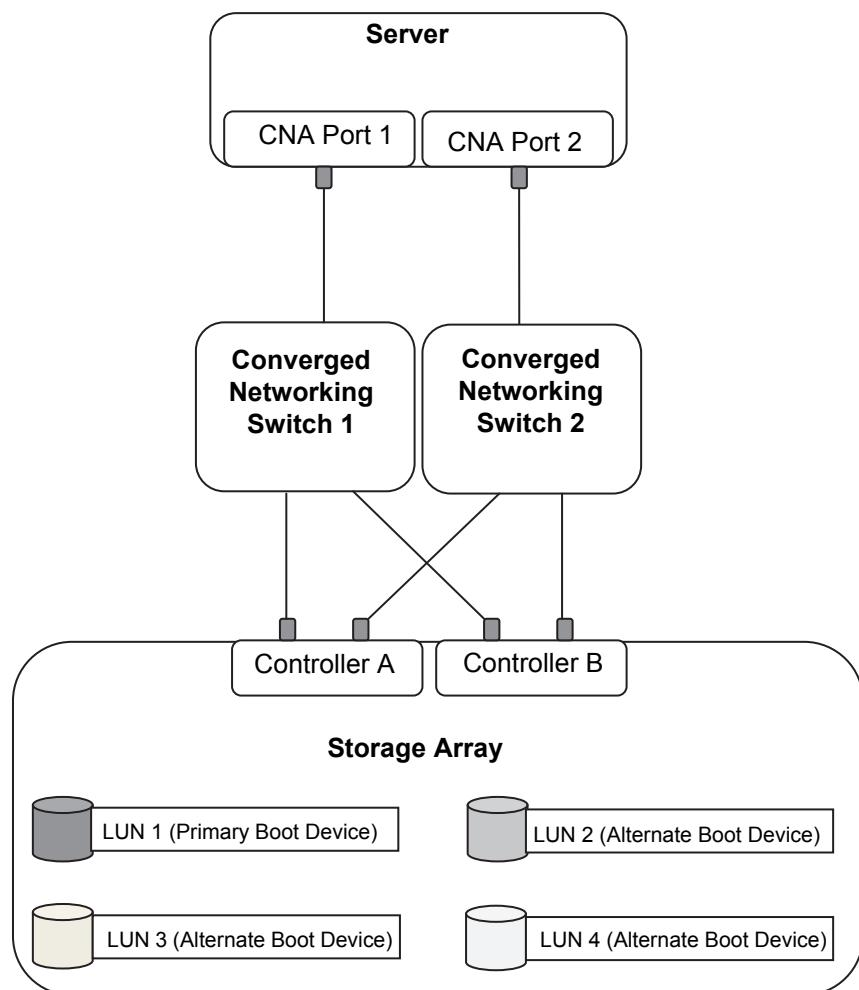

Figure 7-7. Multipath Topology
Multipath topology provides fault tolerance through redundant SAN components: two adapter ports, two converged networking switches, and access to the boot LUNs through two independent storage array controllers. Figure 7-7 shows the SAN components and their connections. The server has access to the primary and alternate boot LUNs through two independent paths. A single point of failure is unlikely with this configuration. You can enhance this configuration further by adding more adapter ports that connect to the converged networking switches. This added level of redundancy protects against adapter board failures.
- a. Connect the second adapter port, as shown in Figure 7-7.